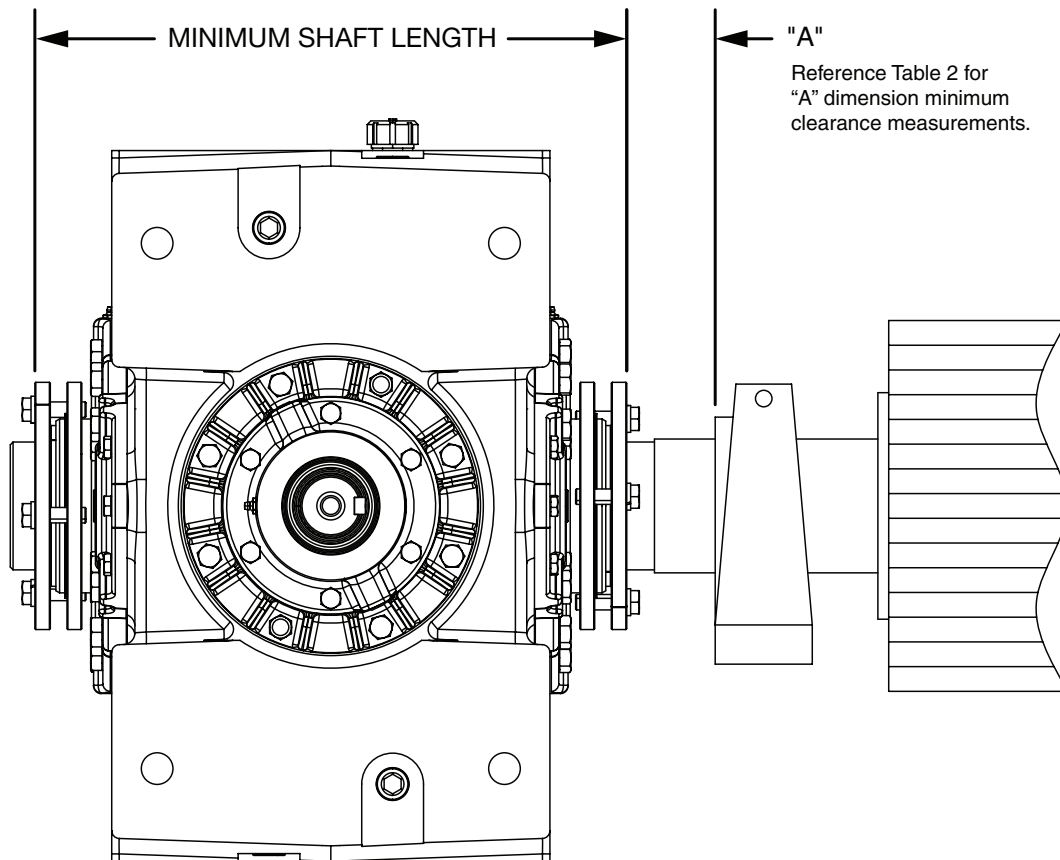

Figure 2 - Minimum Recommended Dimensions
1. One bushing assembly is required to mount the reducer on the driven shaft. An assembly consists of two tapered bushings, bushing screws and washers, two bushing backup plates and retaining rings, and necessary shaft key or keys. The driven shaft must extend through the full length of the reducer. If the driven shaft does not extend through the reducer do not use the standard tapered bushings; instead use the short shaft bushings as described in the Short Shaft Bushings section that follows. The minimum shaft length, as measured from the end of the shaft to the outer edge of the bushing flange (see Figure 2), as given in Table 2.
The minimum shaft length, as measured from the end of the shaft to the outer edge of the bushing flange (see Figure 2), is given in Table 2.
- Insert the screws, with washers installed, in the unthreaded holes in the bushing flange and align with the threaded holes in the bushing backup plate. If necessary, rotate the bushing backup plate to align with the bushing holes. Insert bushing screws, with washers installed, in the unthreaded holes in the bushing. Tighten screws lightly. If the reducer must be positioned closer than dimension "A" as shown in Figure 2, place the screws, with washers installed, in the unthreaded holes in the bushing before positioning reducer making sure to maintain at least 1/8" between the screw heads and the bearing.